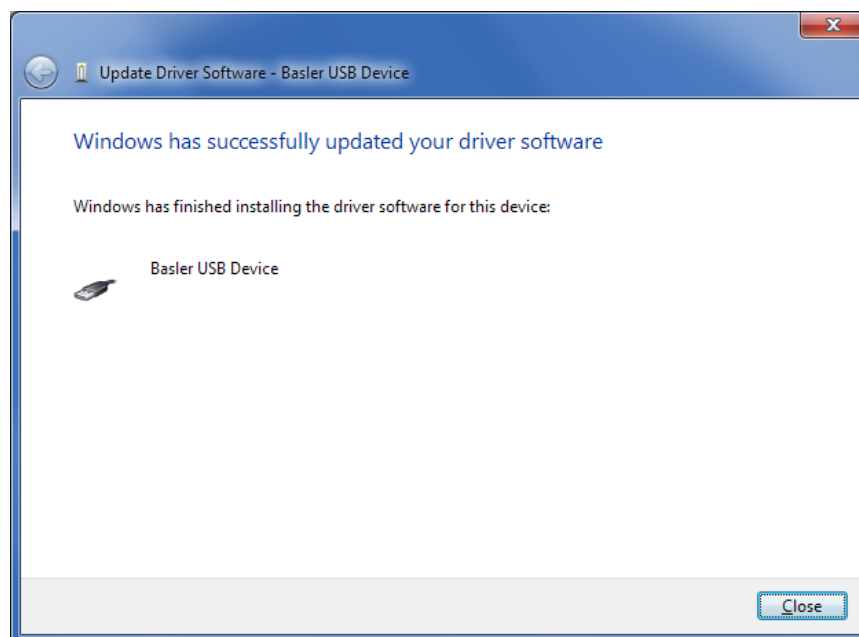

Figure 9-7. Driver Software Update Successful
Step 7. The window in Figure 9-7 appears if driver installation was successful.